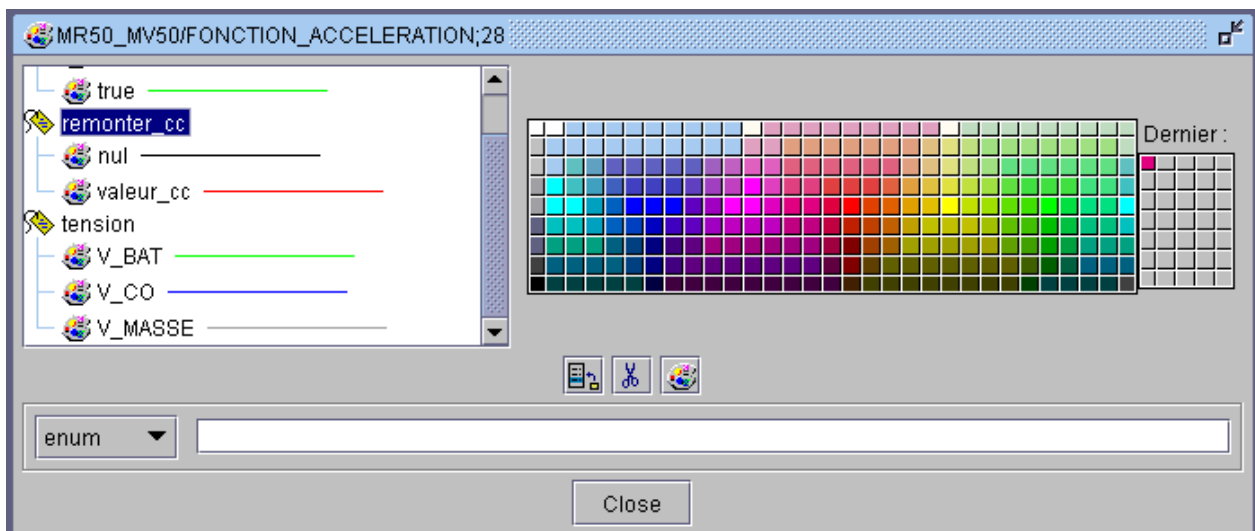

Figure 181 : Links colour
- * E.g.: To select a predefined type variable, enter *pressure* in the **enum** field; the following window is displayed (Figure 181) :